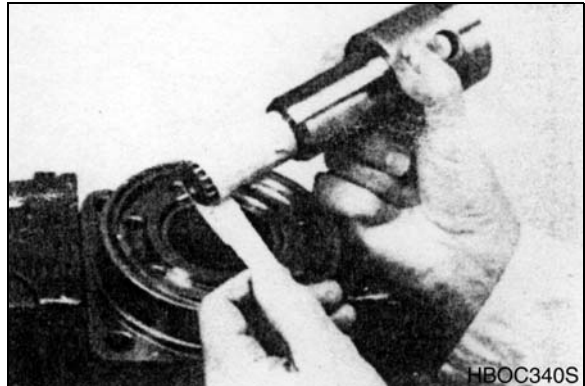

Figure 48
7. Apply masking tape around splines or keyway on shaft (12) to prevent damage to seal. See Figure 48.
8. Be sure that a generous amount of clean corrosion resistant grease has been applied to the lower (outer) housing bearing/bushing (19). Install the coupling shaft (12) into housing (18), seating it against the thrust bearing (15) in MG and MF Series housings and against the second thrust washer (14) in MB and ME Series housings. See Figure 48.